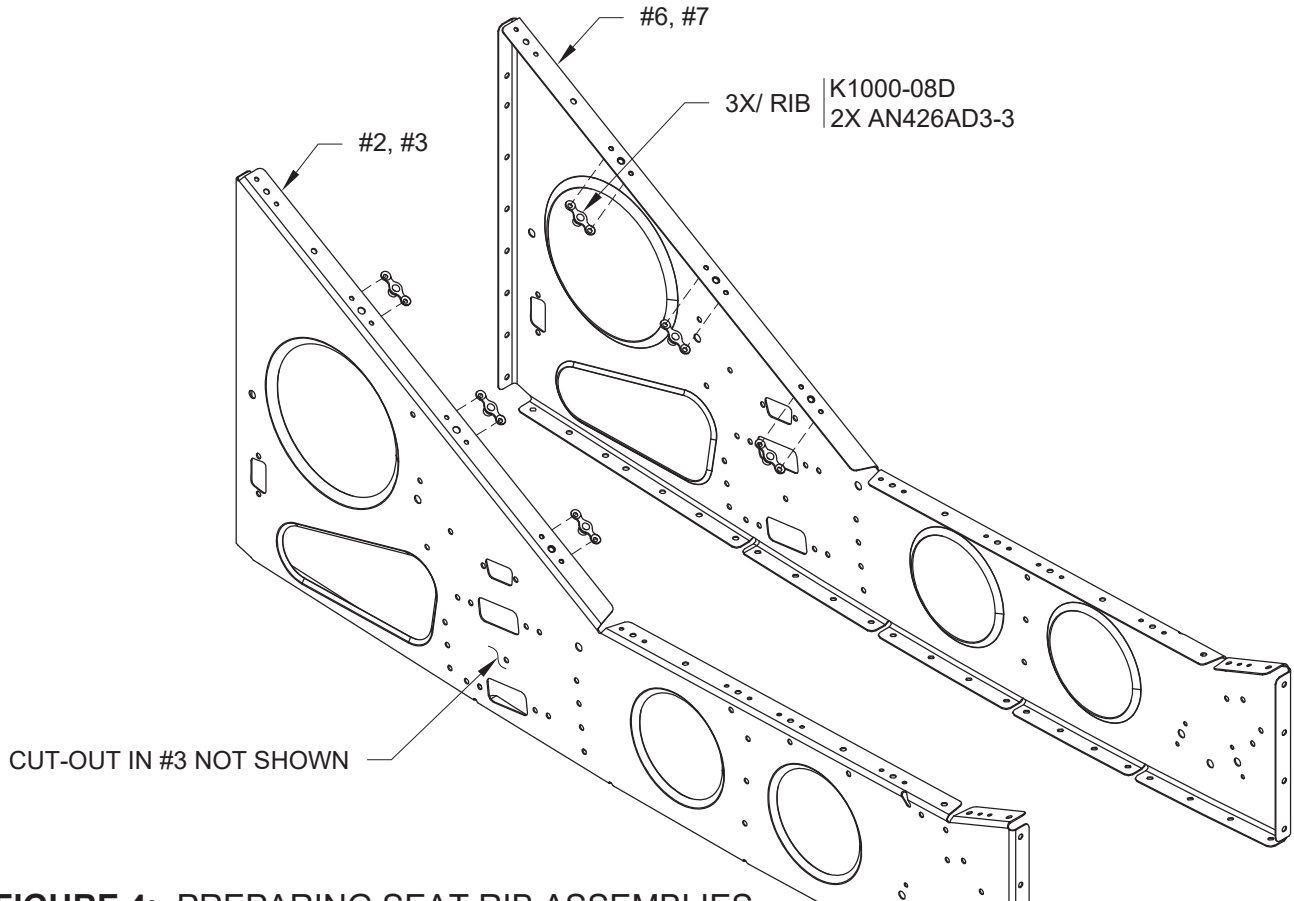

FIGURE 4: PREPARING SEAT RIB ASSEMBLIES
Step 10: Rivet nutplates to ribs #2, #3, #6 and #7 ribs per the Figure 4 call-out.